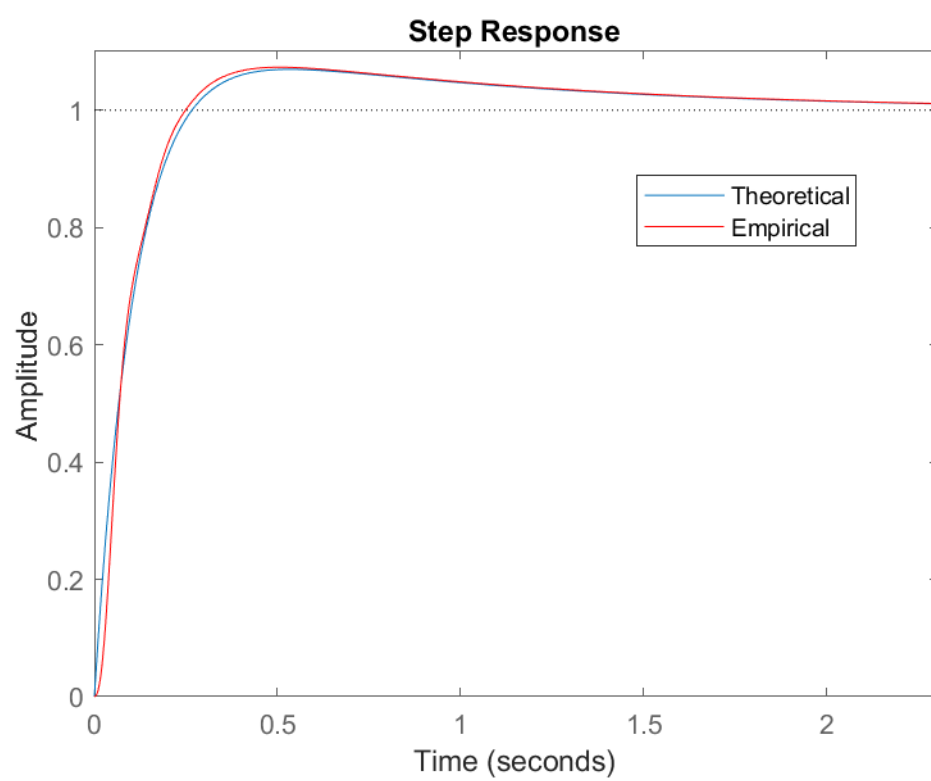

Figure 2: Step responses.
The controller calculates u_{dif} and, in turn u_1 and u_2 , to ensure that $\phi(t) \rightarrow r_\phi$. The control system diagram is shown in Figure 2. As implied by this figure, we have assumed that both ϕ and $\dot{\phi}$ are perfectly measured. We will thus close two feedback loops in sequence, one to stabilize the $\dot{\phi}$ dynamics and one to stabilize the ϕ dynamics, as shown in the block diagram. This architecture is the cascaded control from class and is very common in control systems design. The feedback loop from r_{in} to $\dot{\phi}$ is referred to as the "inner loop", and the entire system (with the inner loop in place) from r_ϕ to ϕ is referred to as the "outer loop". As we saw in class, with this architecture, controller design is done modularly: we first design the inner loop controller, and then design the outer loop, ensuring that the outer loop is slower (i.e. has longer settling time) as compared to the inner loop. You typically want the settling time of the inner loop to be at least 5 times smaller (i.e., faster) so that modularity is maintained. Thus, in the design of the outer loop, you can assume that the inner loop is at steady-state (i.e., is infinitely fast).
3. Using the Laplace transform on the dynamics in Step 2 and substituting the values from the table on the last page of this document, derive the three transfer functions corresponding to the empty blocks in the block diagram shown in Figure 2. These will constitute your "plant". Complete the block diagram with your findings and include it in your submission.